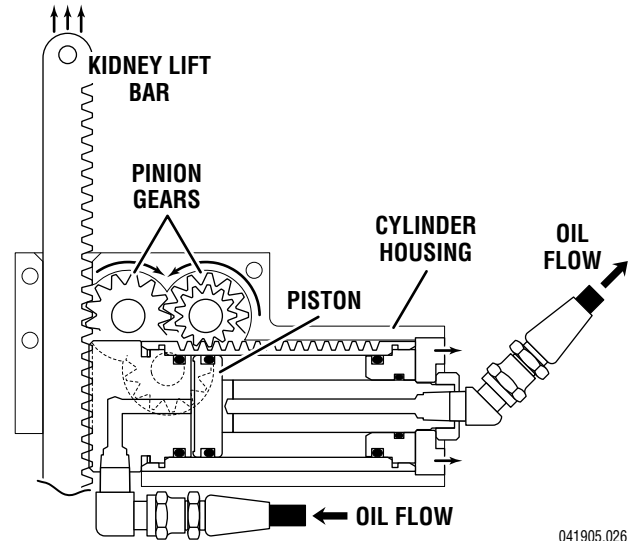

Figure 1-12. Kidney Lift Cylinder Assembly
5. **Kidney Lift** - The two kidney lift cylinder assemblies are a unique type of double action cylinder where the piston remains stationary and the outer housing or cylinder has the relative motion. The cylinder housing has rack teeth cut into the top which meshes with a pinion gear. This gear meshes with other gears to supply the up or down drive for the kidney lift bars, depending on which direction the oil is pumped into the cylinder. See figure 1-12.